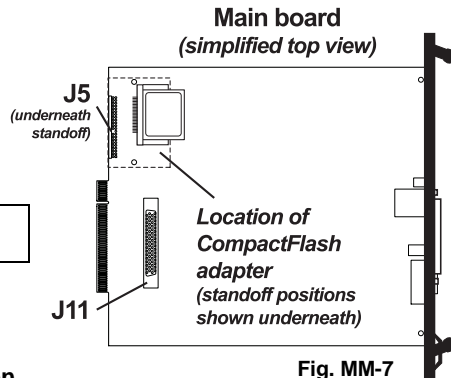

Fig. MM-7
1. Attach the two standoffs to the main board by using two of the four provided screws. Locate the two holes closest to **J5** on the main board (**Fig. MM-7**); then, place the two screws through the holes from the bottom and loosely attach the standoffs to the screws.
3. Connect the cable provided with the CompactFlash Memory Module to **J5** on the main board (**Fig. MM-7**). Verify that the cable is fully seated at both ends. **Fold excess cable back into the open space between the main board and the CompactFlash adapter.**